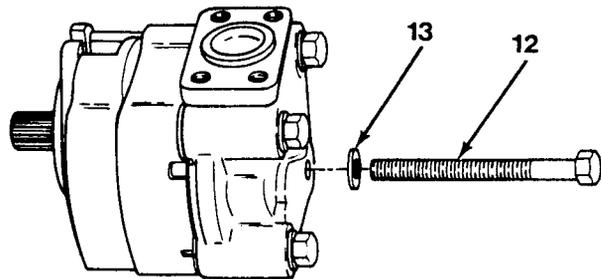

Figure 13-2
11. Install four washers (13) and capscrews (12, Figure 13-2). Torque capscrews (13) to 35 lb-ft (47 N•m).